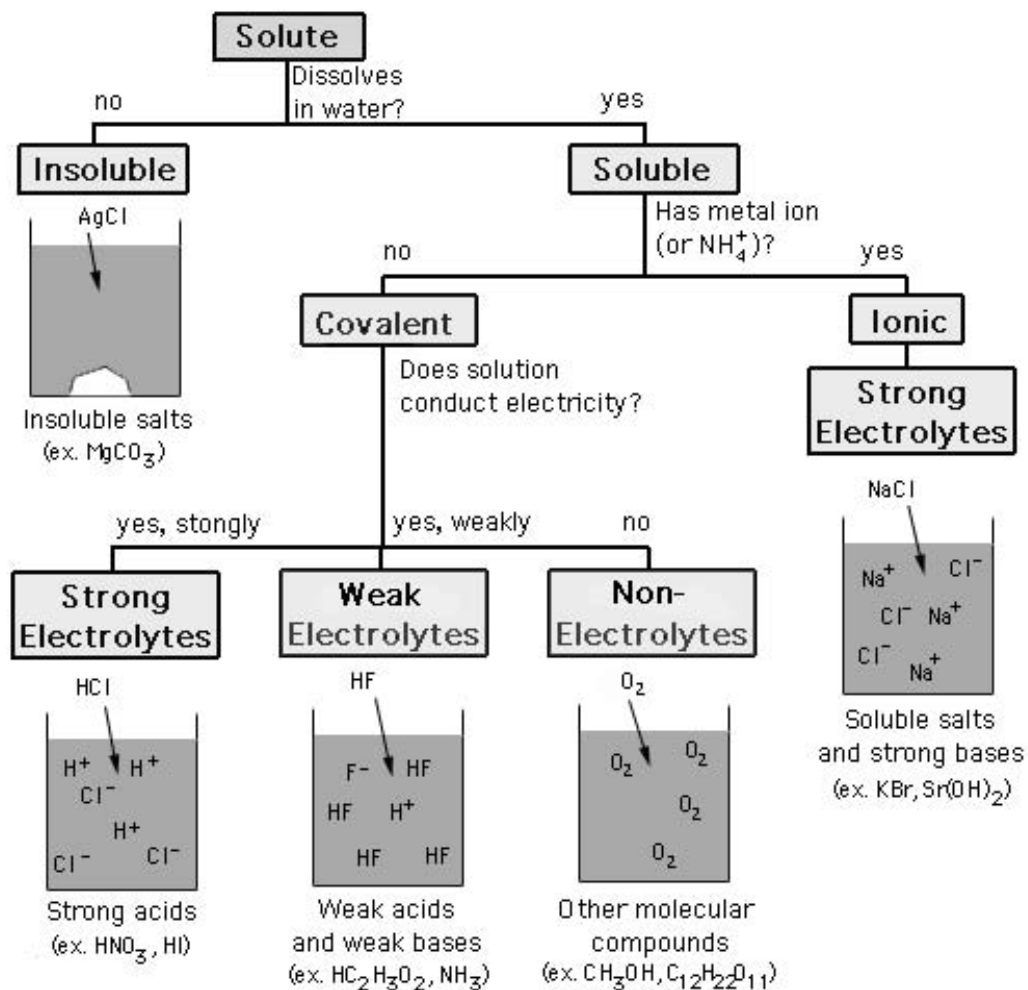

Figure 8. Flowchart for determining whether a compound is a strong, weak, or non-electrolyte.
The extent to which a particular solution conducts an electrical current depends on what proportion of solute particles dissociate into ions (Figure 8). Compounds whose solutions contain a large fraction of the solute in the form of ions (all soluble ionic compounds or strong acids) will conduct a large current and are called strong electrolytes. By contrast, a weak electrolyte is a solution that contains only a relatively small fraction of ionized solute particles (the weak acids and weak bases). As a result, solutions of weak electrolytes only conduct a small amount of current. Finally, a solution of a non-electrolyte, for example CO_2 , contains only dissolved molecules and will not conduct an electrical current.
5. For each compound (calcium chloride, glucose and sodium iodide) give the formula, state whether it is ionic or covalent, whether it is soluble in water, whether it forms ions in water, and whether an aqueous solution conducts electricity. Also make a drawing illustrating the behavior of the compound in water. Use Figure 8 to help you make your predictions. Use the space below to arrange your answers in the form of a table.
In Parts B and D, you determined whether NaOH, NH₃, C₃H₇OH and NaHCO₃ are strong, weak or non-electrolytes. Based on your results, draw beakers showing atomic scale representations of aqueous solutions of these compounds. Use the drawings in Figure 8 as examples.